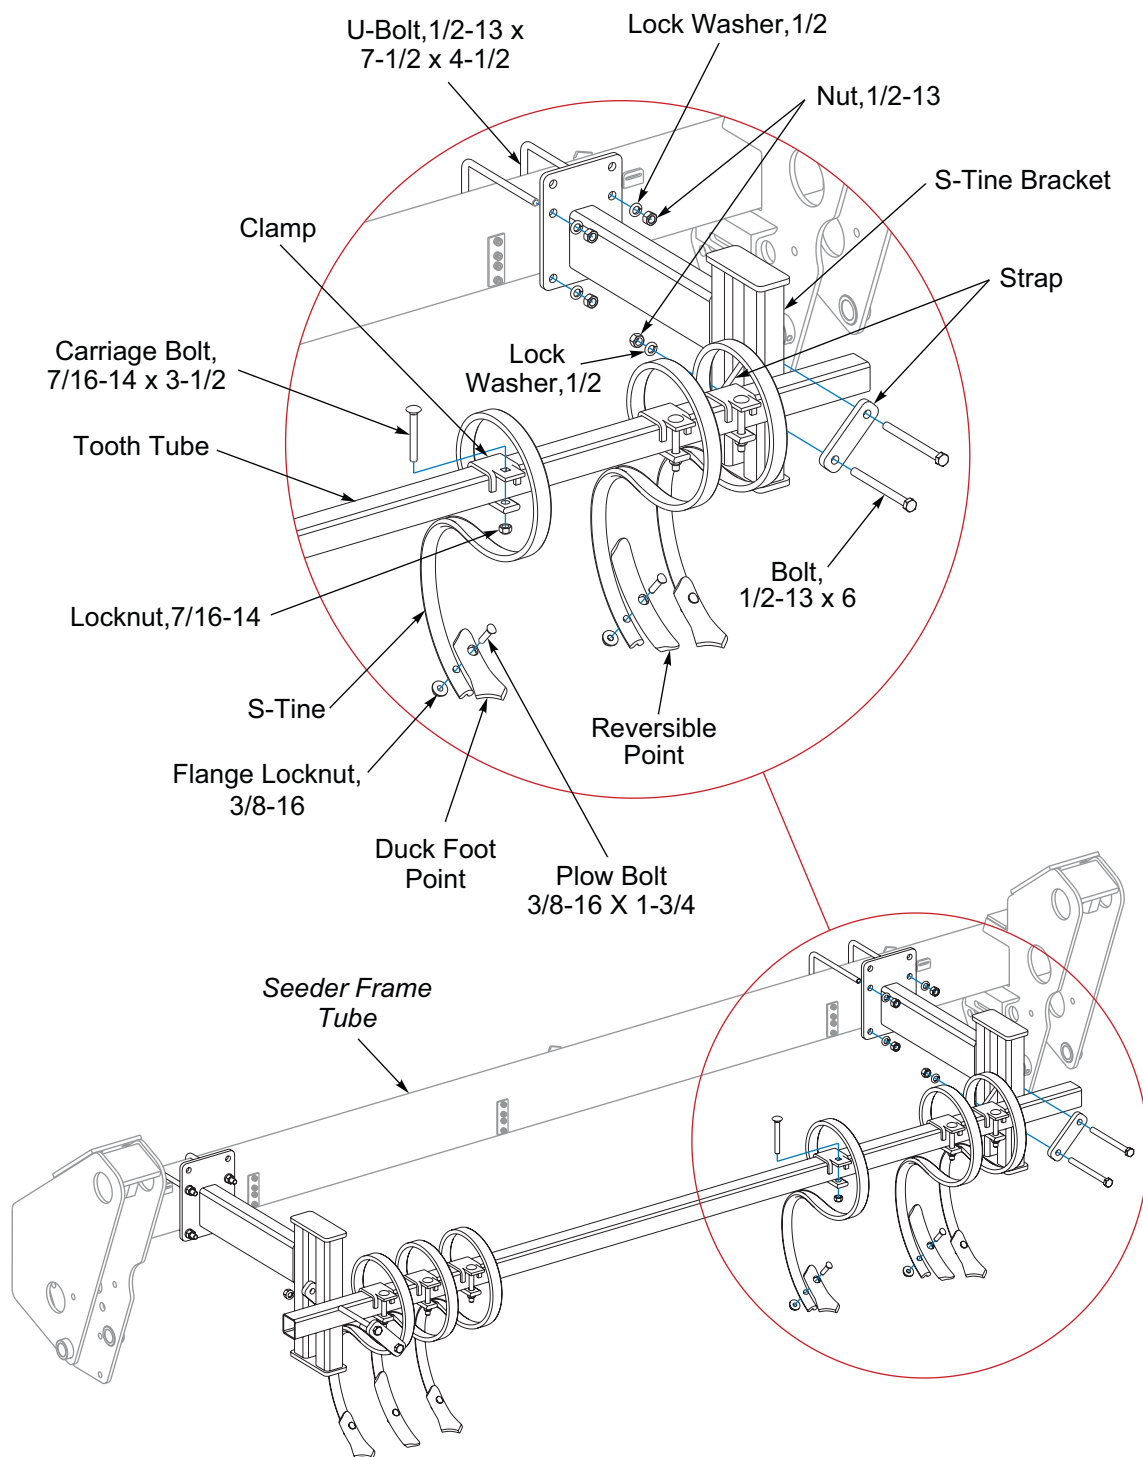
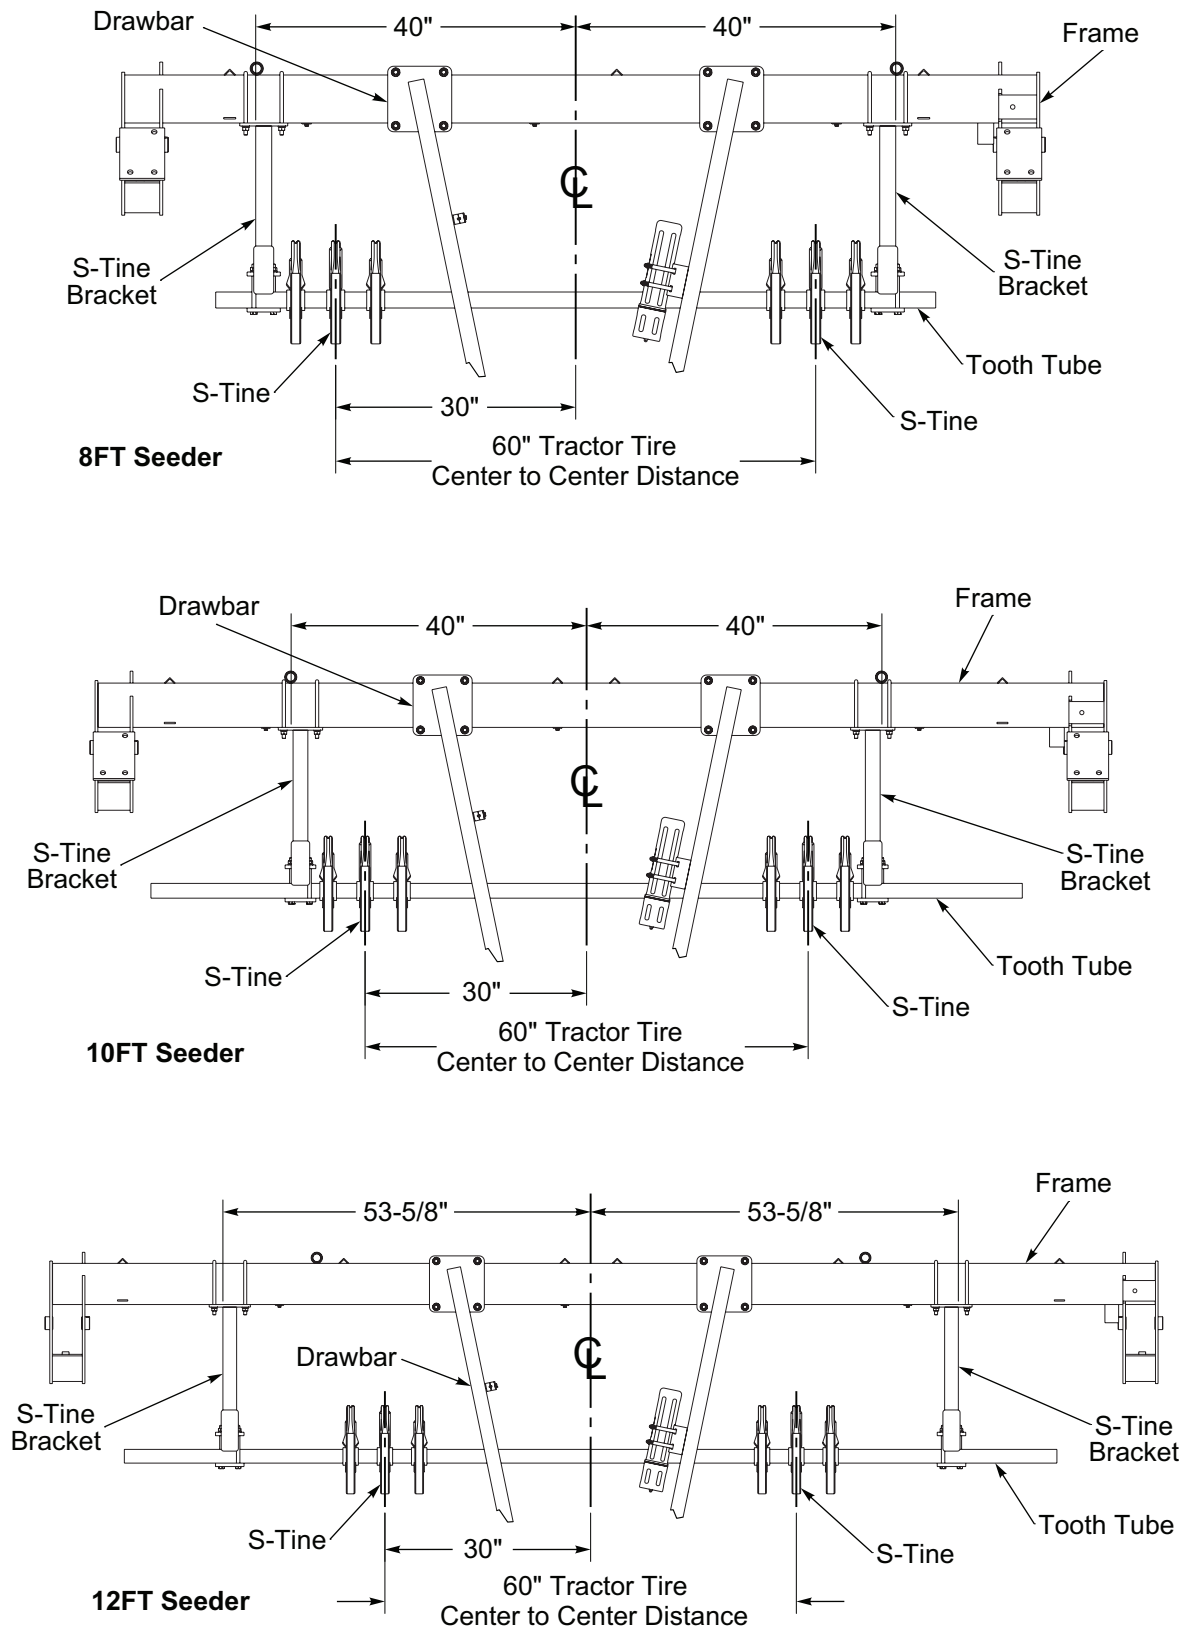

Figure 2-67: S-Tine Track Remover Kit - Optional
Figure 2-68: S-Tine Mounting Dimensions
*S-Tine Brackets and S-Tines should be positioned per application. Use **Figure 2-68** only as a reference.*
1. Center and position the S-Tine Brackets in relationship with the center of the Drawbar or 3-PT Hitch to the front of the Seeder Frame Tube. **See Figure 2-68.** Secure S-Tine Brackets to the Seeder Frame Tube with 1/2-13 x 7-1/2 x 4-1/2 U-Bolts, Lock Washers and Nuts. **See Figure 2-67.**